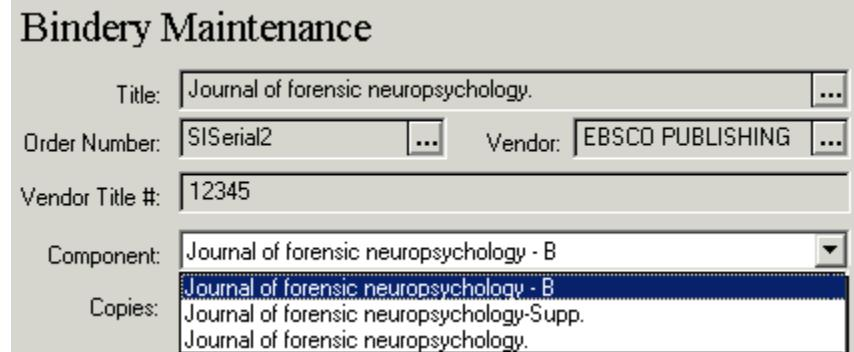

Figure 14-4. Title with multiple components
4. Click the component you want to use from the **Component** field. If there is more than one component, select the one you want from the drop-down menu (see Figure 14-4).